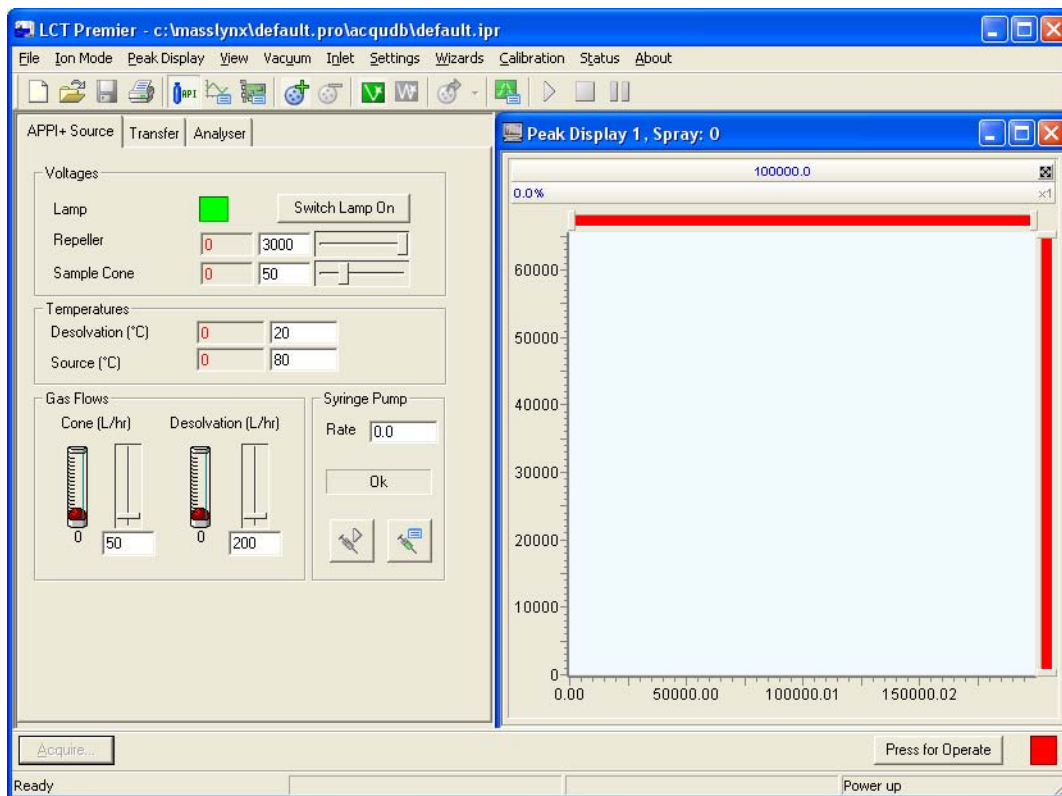

Figure 5-8 The MassLynx Tune Window APPI+ Source Page
Switching the UV lamp on (from the MassLynx™ Tune window, see Figure 5-8) provides a constant photon output. The intensity of incident radiation up the sample molecules is varied by manually adjusting the distance between the lamp and probe tip, using the handle on the APPI lamp drive assembly to move the whole assembly on its mounting shaft. The mounting shaft's four numbered indexing indents aid in setting this distance.
4. On the MassLynx Tune window, select Ion Mode > APPI+ to open the APPI+ Source tab (Figure 5-8).